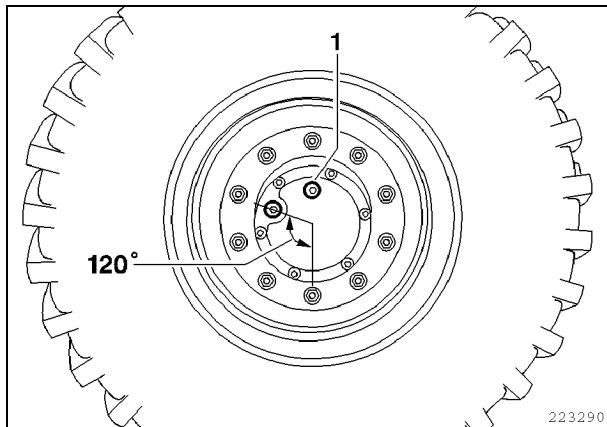

Fig. 1
- Position the machine so that the screw plugs in the wheel hub are in the position shown (Fig. 1).
- Screw out the plug (1, Fig. 1).